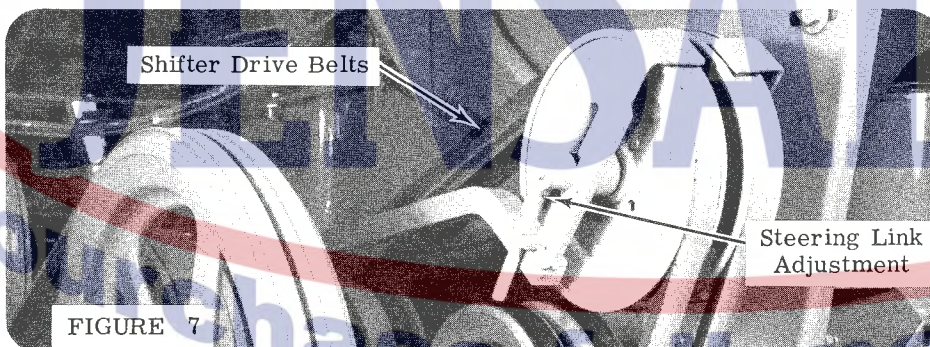

FIGURE 7
1. Normally the only steering adjustment required will be to tighten the shifter drive belts. This is done by raising the idler in slot of shifter arms. (See Figure 7.)